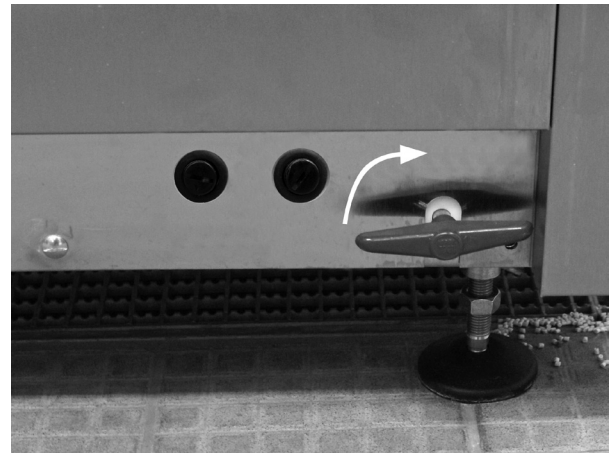

Figure 17: drain valve
1. Press the STOP button (2) and open the drain valve to drain the tank (see Figure 17 drain valve).